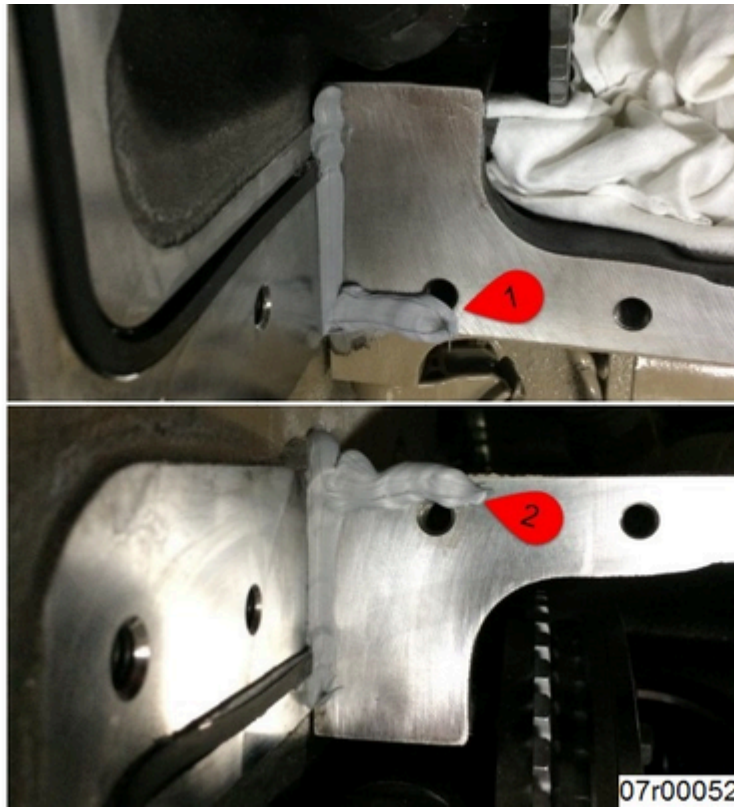

Figure 7
- Sealant applied on cylinder block at right rear (Figure 7, Callout 1).
- Sealant applied on cylinder block at left rear (Figure 7, Callout 2).